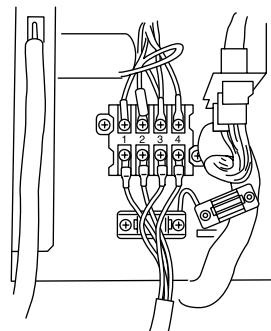

Fig. 7
- 2) Install the inter-unit wiring onto the terminal board located inside the electrical box. (Fig. 7)